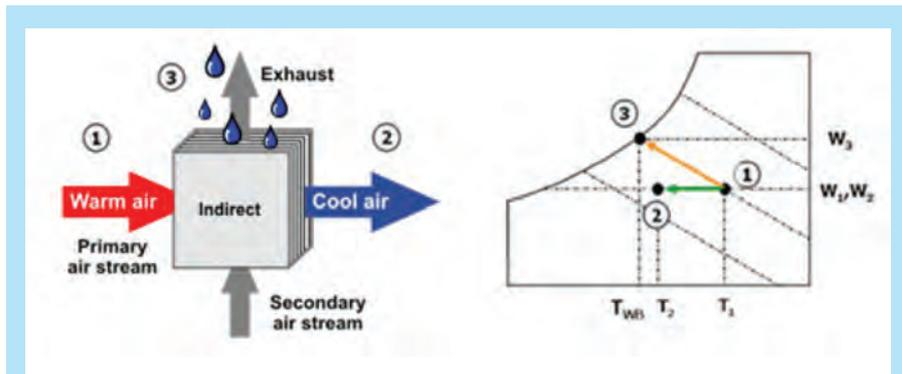

Figure 3: Layout of active IEC and process on psychrometric chart
The active IEC involves two air streams: primary air and secondary air as shown in Figure 3. The air directly cooled by water evaporation in the wet channel is called the secondary air. The cool and moist secondary air is used to cool the primary air (the air to be supplied to air-conditioned space) by a heat exchanger. At the outlet, the primary air will have a lower temperature as at inlet, due to the transferred heat. The secondary (working) air is flowing inside the wet channels together with the water. The behaviour of the air and water in the wet channel is similar to the DEC process. The water temperature is the wet bulb (WB) temperature of the secondary air. The heat transferred through the surface between the dry and wet channels is absorbed by the water as latent heat and a corresponding part of the water is evaporated being embedded by diffusion into the secondary air, increasing the moisture content of this air. If the secondary air arrives at the saturation state, after this stage forward the heat from the primary air is split as latent heat absorbed by the water and as sensible heat absorbed by the secondary air. Thus, the temperature of the secondary air at the outlet can be one of the following: (a) Lower than the wet-bulb temperature of the secondary air at the inlet (no saturation); (b) Equal with the wet-bulb temperature of the secondary air at the inlet (saturation is reached at the outlet); (c) Higher than the web-bulb temperature of the secondary air at the inlet (saturation before the outlet). The main advantage of the IEC is that primary air is cooled without modifying its moisture content. The main disadvantage of the IEC is that the cooling process of the primary
According to the types of heat exchanger used in IEC, there are tubular type IEC, plate type IEC and heat pipe IEC. In the plate and tubular type IEC, the first air and secondary air are separated by an air-to-air heat exchanger, while in the heat pipe IEC, the condenser section is used in the secondary air flow channel, and the evaporator section is used in the primary air flow channel. Flow arrangement between primary air and secondary air in the conventional IEC may be parallel flow, cross flow or counter flow. To avoid the wet-bulb temperature limitation of conventional active IEC, the sub-wet-bulb IEC was developed to decrease the primary air temperature at the outlet, below the WB temperature of the secondary air at the inlet. In this device, some fraction of primary cooled air is used as secondary air. This device is again two types: regenerative indirect evaporative cooler (R-IEC) and Maisotsenko indirect evaporative cooler (M-IEC). In R-IEC, some fraction of the outlet primary air stream (state 2 in Figure 3) is used as an inlet secondary air stream and there is no mixing in between. Whereas in M-IEC, there are numerous holes distributed regularly between dry and wet channels and hence, the primary air is cooled in the dry side and partially diverted to the wet side through the holes. The lowest possible temperature of the primary air at the outlet of the M-IEC is the dew point temperature of the entering